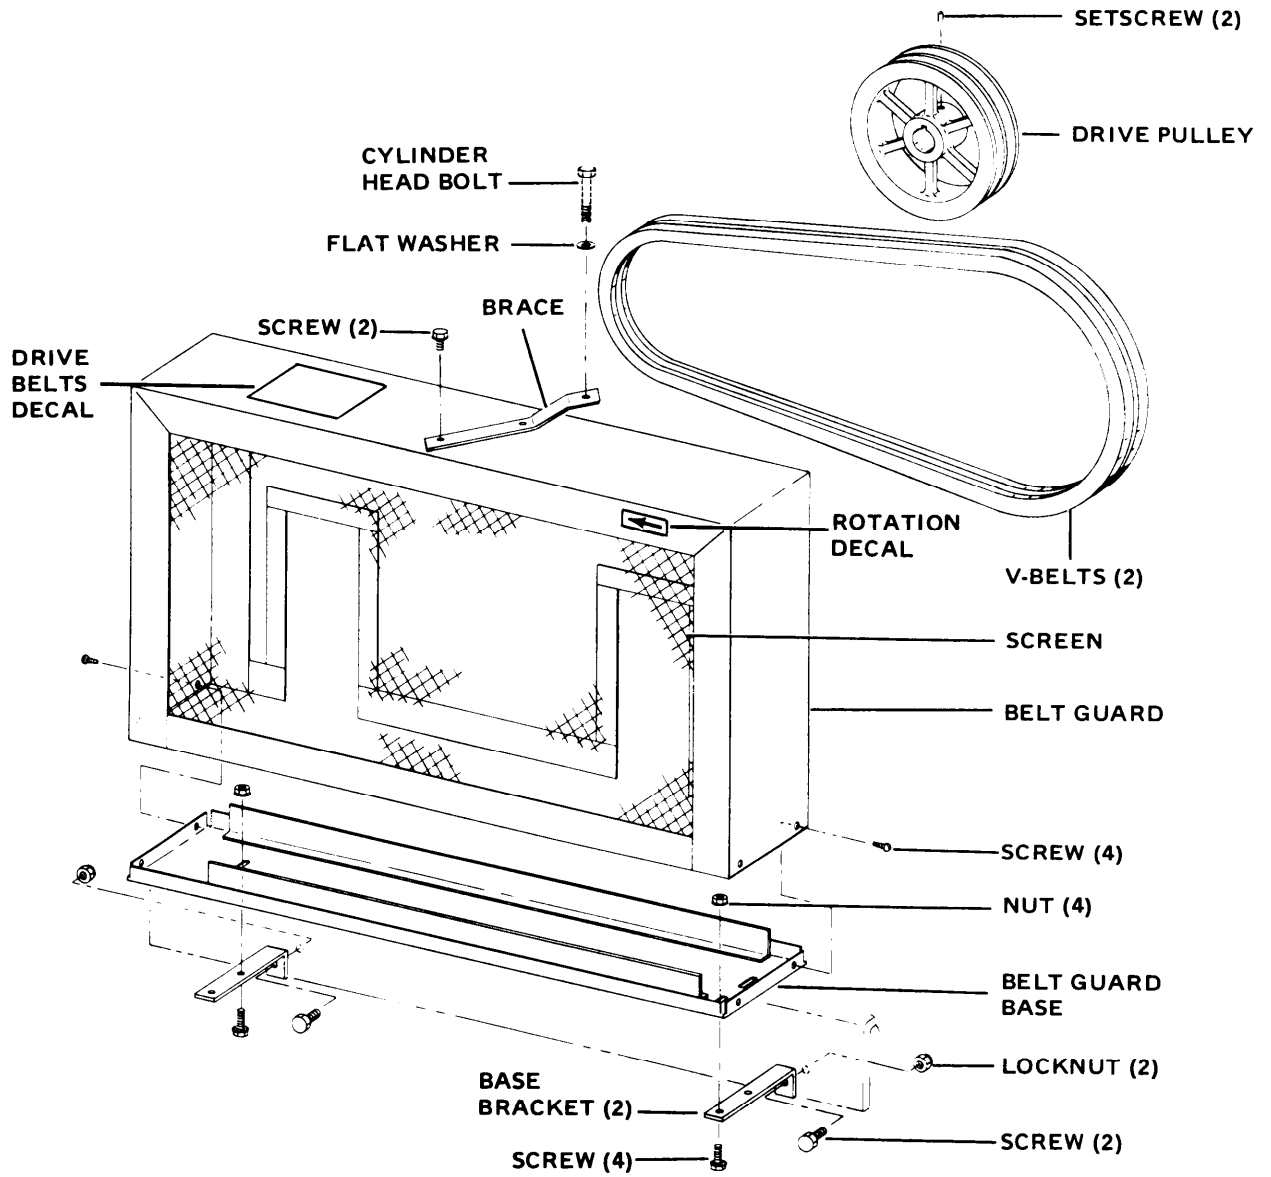

Figure 3-3. Belt guard, V-belts, and drive pulley
a. Inspection. Inspect belt guard assembly (fig 3-3) for damage to the screen or panels. Inspect for accumulation of grease, dirt, or foreign matter.
- (1) Use a cloth dampened in cleaning solvent, P-D-680, to wipe oil and dirt off V-belts (fig 3-3).
- (2) Clean drive pulley with solvent, P-D-680, and dry thoroughly.